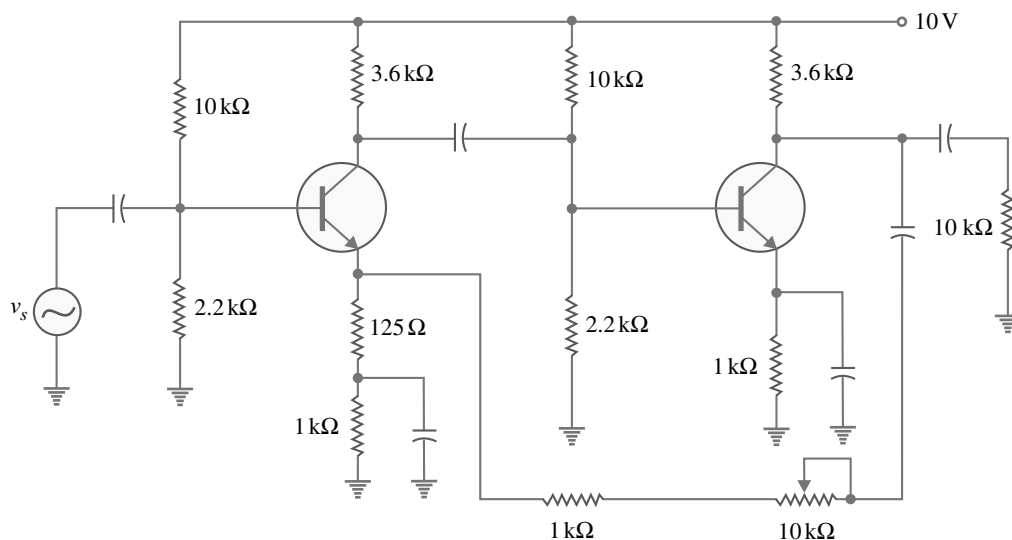

Fig. 11.21
**Example 11.20.** Fig. 11.21 shows two-stage negative voltage feedback amplifier. If we want a voltage gain of 70, what should be the value of feedback resistor  $r_f$ ?